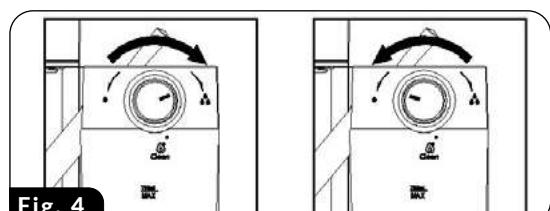

Fig. 4
CAUTION! Before preparing CAPPUCCINO, adjust the amount of steamed milk according to your preferences by turning the milk dispensing knob (23) to the left to get more steam or to the right to reduce the amount of steam (Fig. 4). The intensity of steam can also be adjusted during the steaming process.
CAUTION! Before preparing LATTE, adjust the amount of steamed milk according to your preferences by turning the milk dispensing knob (23) to the right to get more steam or to the left to reduce the amount of steam (Fig. 4). The intensity of steam can also be adjusted during the steaming process.
1. Mount the selected filter basket (13) in the portafilter (10), fill it with coffee and install it in the espresso machine.
2. Ensure that there is enough water in the water tank (15) and enough milk in the milk container (19).